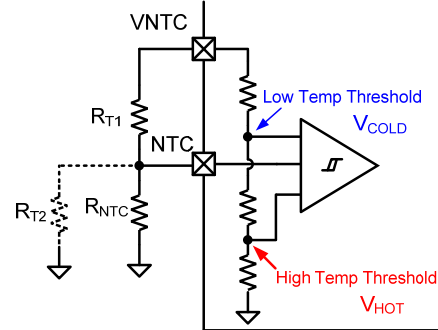

Figure 16: NTC Function Block
Figure 16 shows an internal resistor divider reference circuit that limits both the high and low temperature thresholds at V_{HOT} and V_{COLD}, respectively. For a given NTC thermistor, select an appropriate R_{T1} and R_{T2} value to set the NTC window using Equation (25) and Equation (26):
Equation (26), use V_{COLD} and V_{HOT} from the EC table to calculate R_{T1} = 2.27kΩ and R_{T2} = 6.86kΩ (see Figure 16).